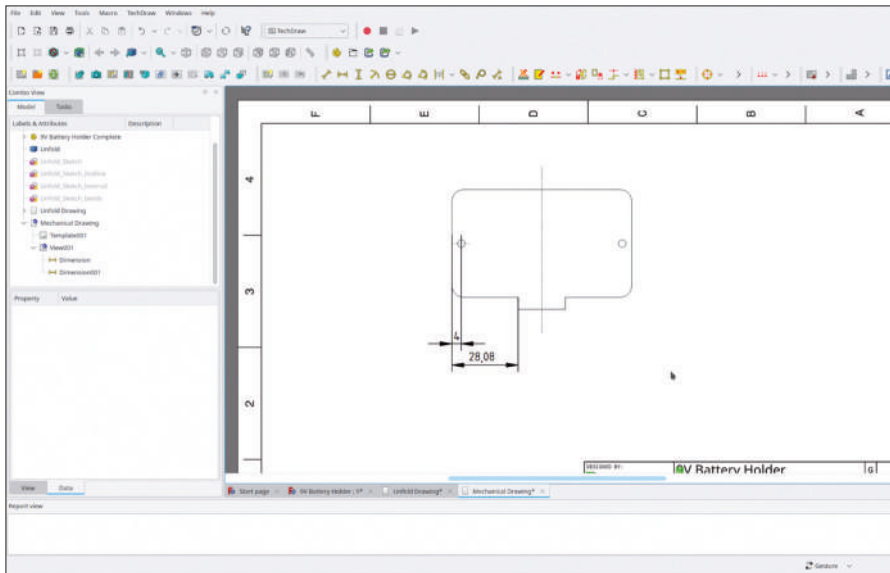

Figure 5-38
8. In the same fashion, mark the vertical edge on the side, the corresponding vertical edge of the lower protrusion and add the dimension (Figure 5-38).